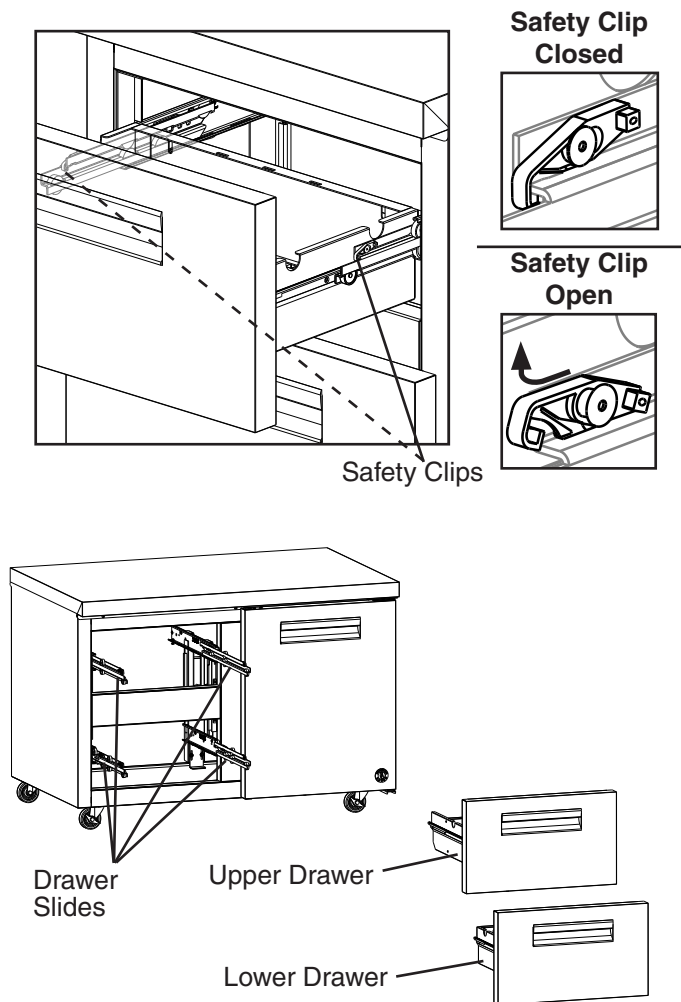

Fig. 23
- 2) Remove the drawers. Pull the drawer out to its fully extended position. Open the safety clips (one on each side) by sliding them forward, then rotating them up. See Fig. 23. Lift up on the handle slightly, then pull to disengage the drawer. Be sure to support the rear and front of the drawer while removing it. **WARNING! Be sure to close the safety clips when reinstalling the drawer.**